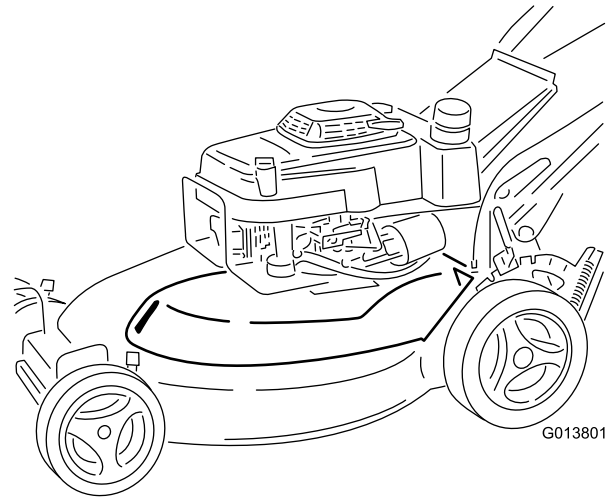

Figure 31
3. Push down and forward on the front of the belt cover to unlatch it from the front mounting screw (Figure 31).